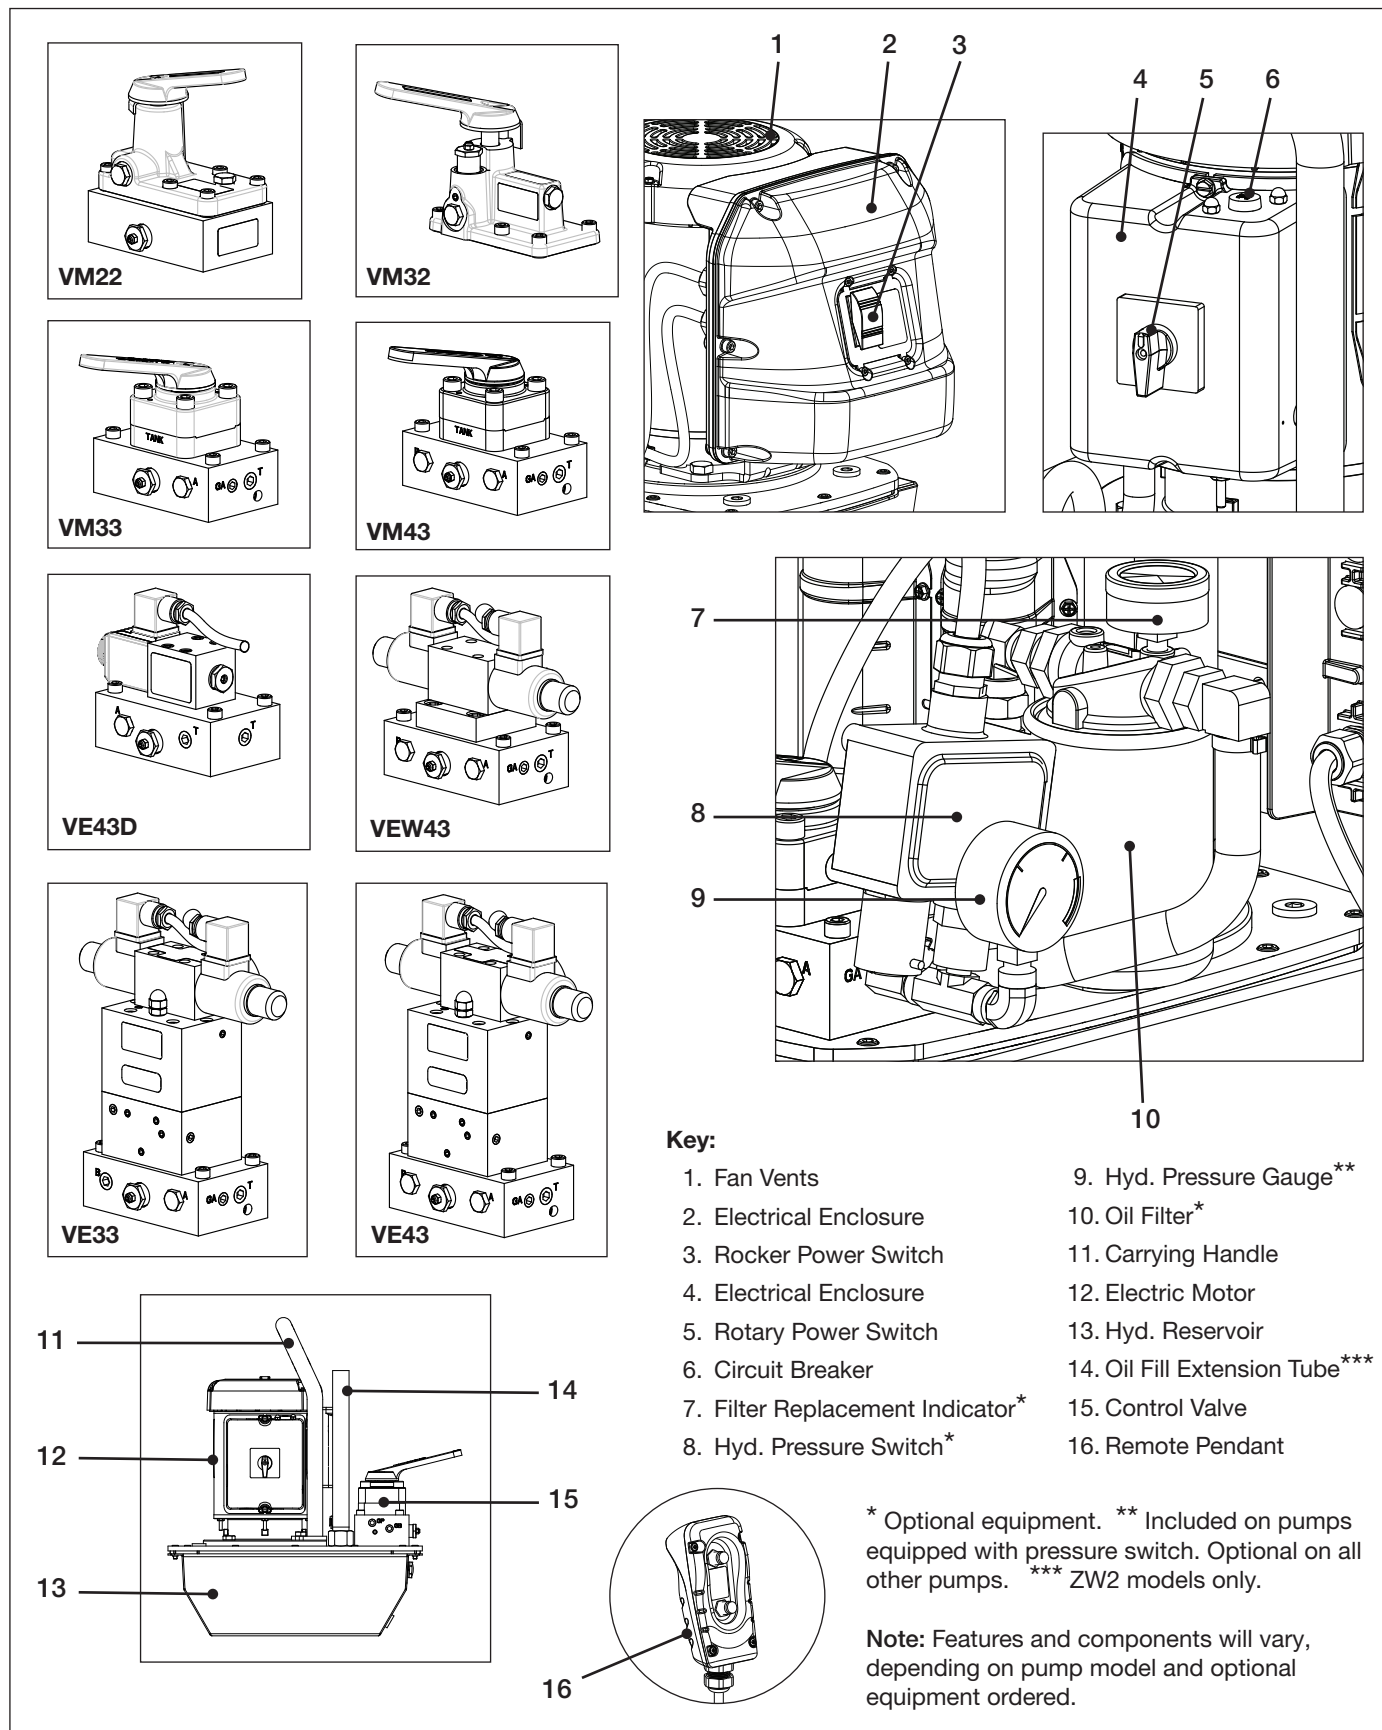
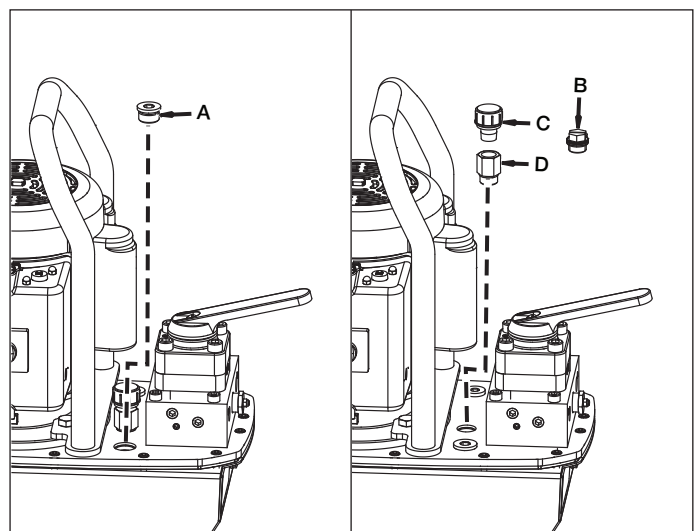

Figure 1: ZE2 and ZW2-Series Pumps
Figure 3: Reservoir Oil Fill Plug and Air Breather
If oil level is low, remove the oil fill plug (A) from the pump cover plate and add oil as required. See Figure 3. Note that ZW2 models include an oil fill extension tube which is shown in Figure 1.
A shipping plug (B) is installed in the pump coverplate. See Figure 3.